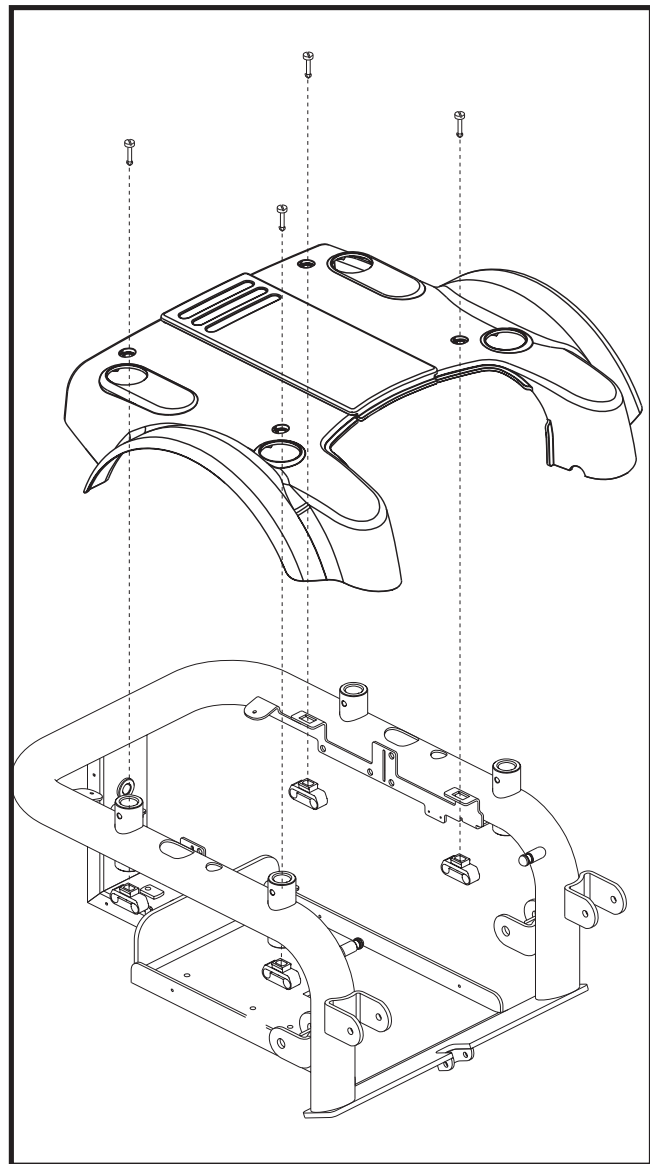

Figure 13. Jazzy 1121 Shroud Removal/Assembly
3. Remove the shroud. **See figure 13.**